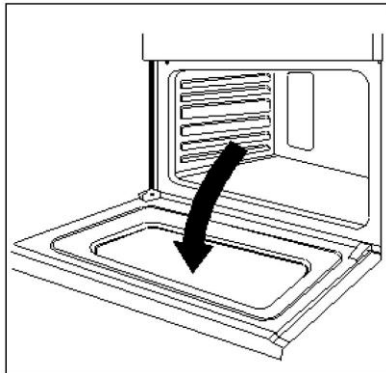

Figure 8
1. Open the door fully (See Figure 8)